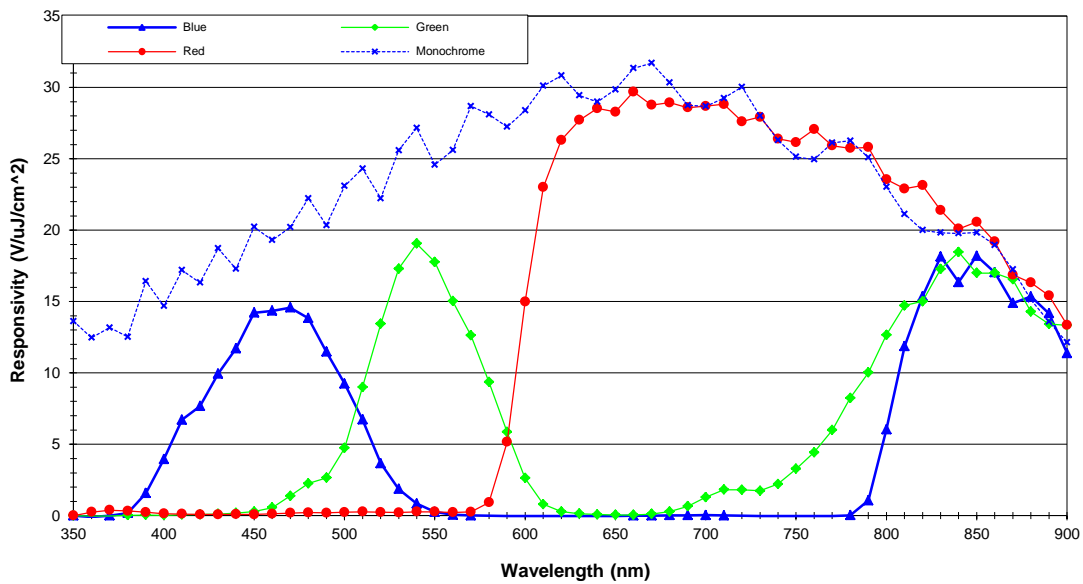

Figure 4: KLI-8023 Typical Responsivity
- With color filter. Values specified at filter peaks. 50% bandwidth =  $\pm 30 \text{ nm}$ . Color filter arrays become transparent after 710 nm. It is recommended that a suitable IR cut filter be used to maintain spectral balance and optimal MTF. See Figure 4.